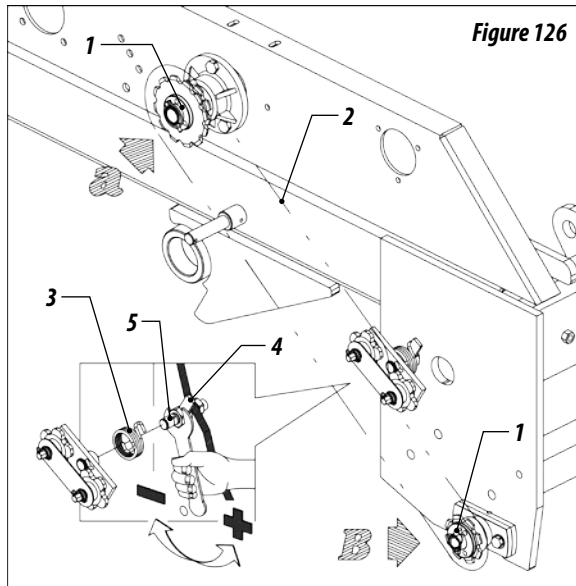

Figure 126
23- After, change the gears and check the chain tension (2). The stretcher is equipped with torsion spring (3) for greater flexibility of the stretcher, and if greater pressure is required in the stretcher, loosen the internal nut (4) and turn the shaft (5) in the clockwise direction, then retighten the internal nut, figure 126.